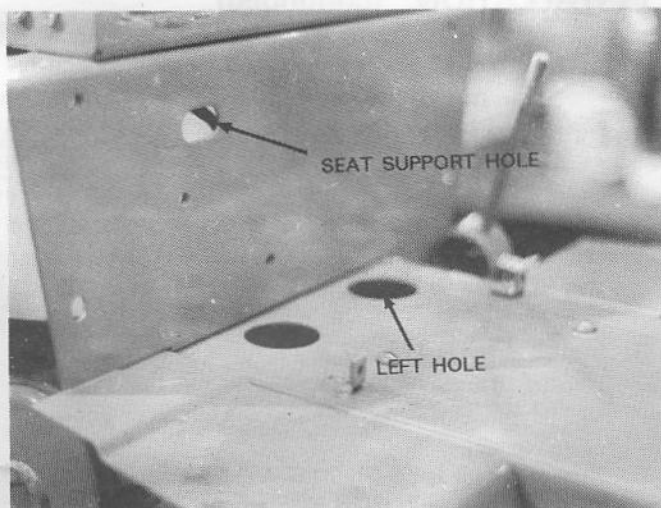
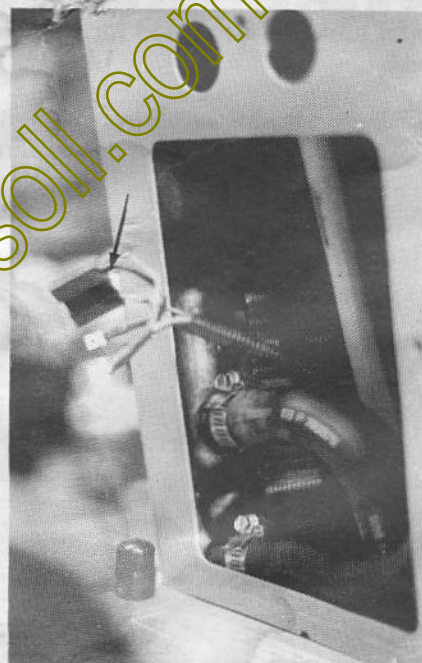
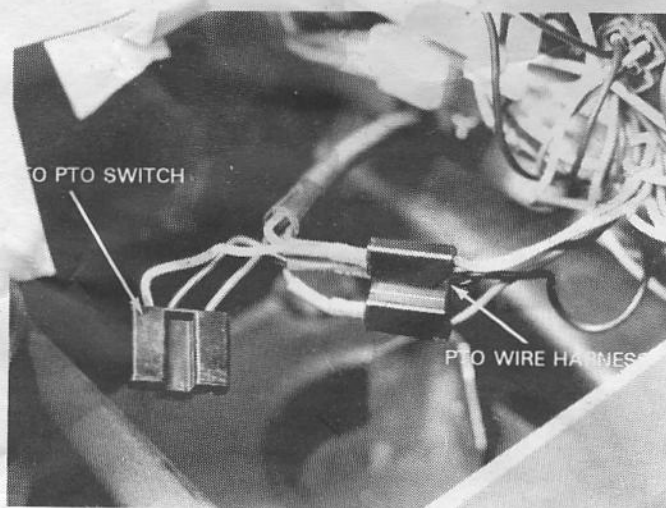

FIG. 5
FIG. 6
FIG. 7
- b. Place the black connector with the 3 spade connectors down through the left hole in the top of the tractor frame shown FIG. 5. Pull the excess wire down. Route the harness through the travel valve area and up through the access panel as shown in FIG. 6. Route the wire harness up through the access panel and into the battery compartment. See FIG. 7.
e. Install the black pigtail at the other end of the harness through the seat support hole as shown in FIG. 5. (NOTE: Pull forward on the seat support to allow clearance between the seat support and fuel tank.) Pull the excess wire through the hole and tuck under the seat support by the switch. Be sure the wire cannot be pinched. This connector will be used for off seat operation of the log splitter and chipper-shredder.